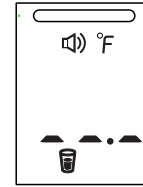

Figure 4
1. Press the *Test Button* to turn on the thermometer, then press *MODE Button* to switch to object mode, you can take the object temperature after hearing voice or vibration.(see figure 4)